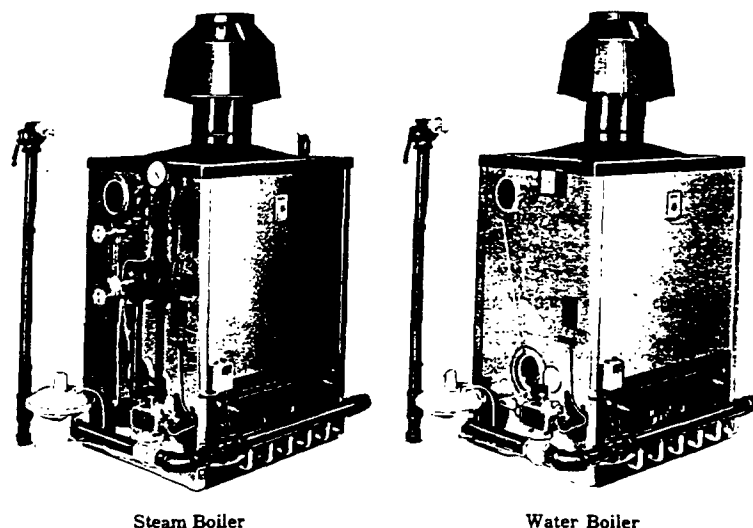
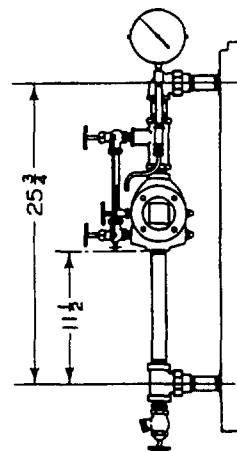

FIG. 9—Jacket Assembly
FIG. 10—Low Water Cutoff
2. Assemble left and right side jacket panels, fastening front and rear halves together with washer head screws passing through front half into caged nuts in rear half. Attach panels to boiler section with washer head screws. (See Fig. 9.)
8. Place draughthood firmly on flue outlet of canopy. Refer to Fig. 9 for assembly of boiler jacket.
1. Assemble low water cutoff and water column piping as shown in Fig. 10 and attach to boiler as shown in Fig. 9. Assemble the working mechanism to the low water cutoff with gasket and screws (furnished in separate package). Make steam gage connection with nipple and tee to $\frac{1}{4}$ " tapping on upper part of low water cutoff. Connect steam control element on automatic gas valve with steam gage tee using copper tubing and connectors. Fill tubing with water and screw steam gage into tee.
1. Insert temperature bulb element of automatic gas valve in $\frac{3}{4}$ " tapping near top of left end section. (See Fig. 9). For more sensitive operation discard well before installing split nut and gland. Tube leading to bulb is installed under the jacket.